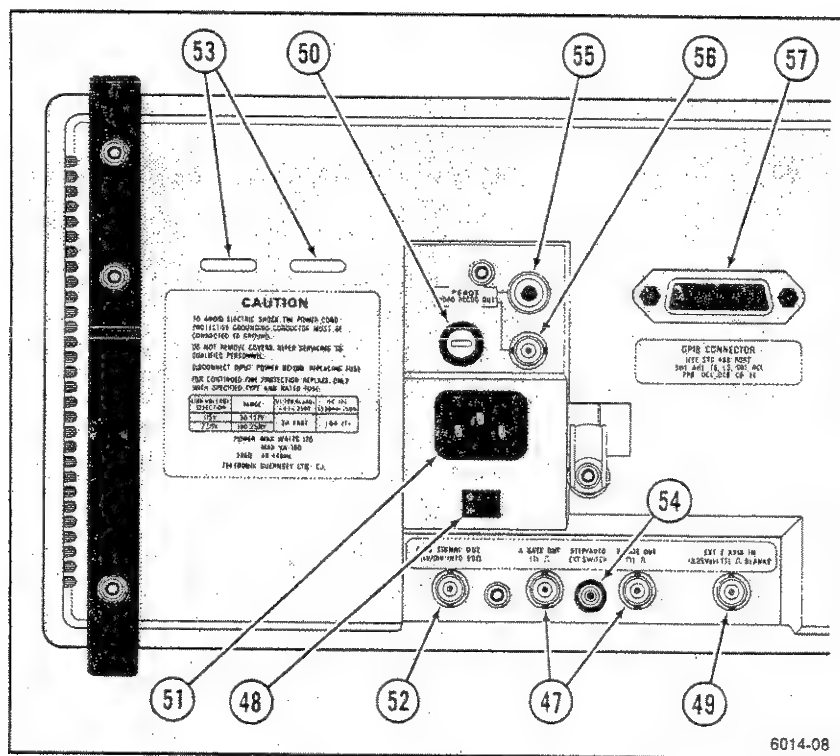

Figure 5-7. Rear panel controls and connectors.
Refer to Figure 5-7 for the location of items 47 through 57.